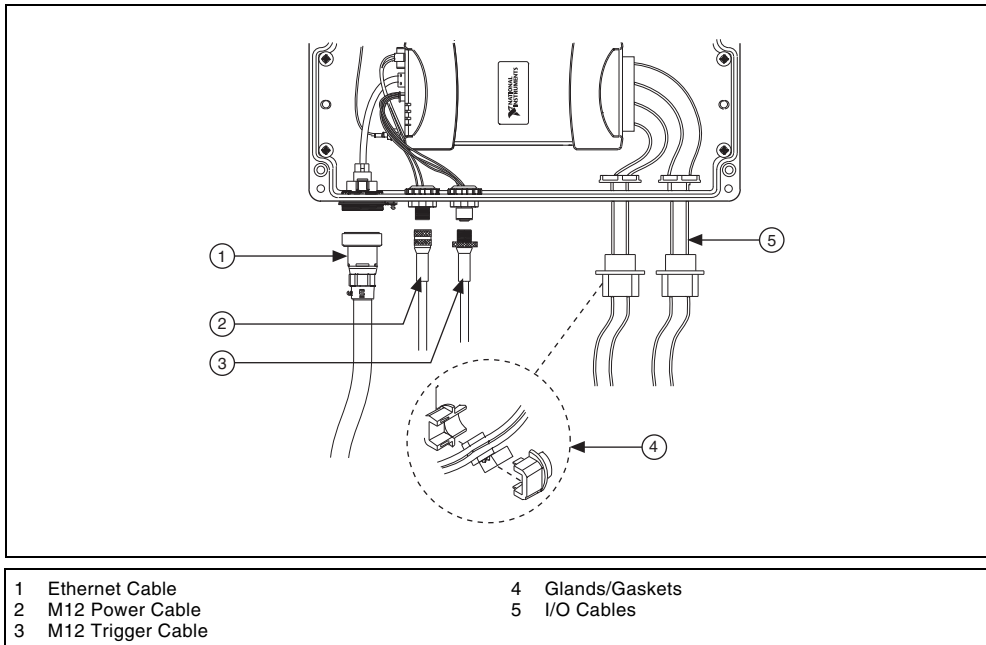

Figure 10. Connecting External Cables/Components
Refer to Figure 10 while completing the following steps to attach the external cables:
5. Place the provided seal over the thread and place the cable gland into the holes, as shown in Figure 10.